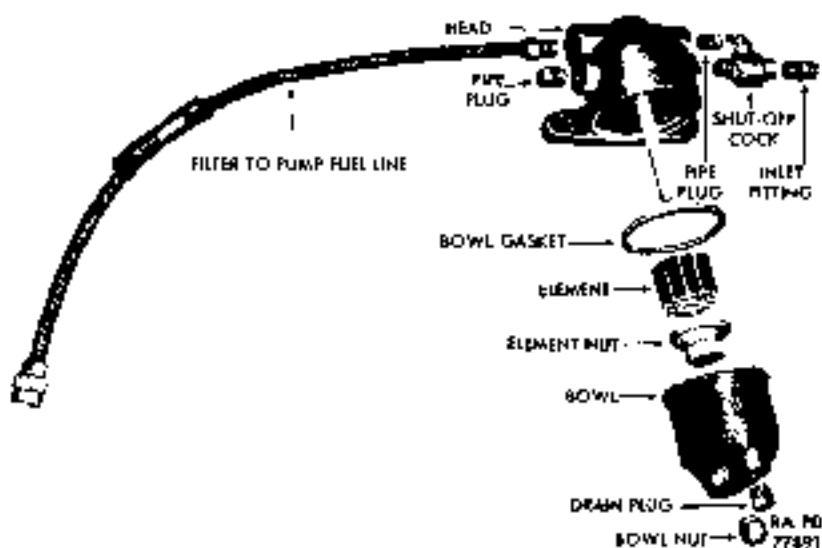

Figure 32 — Fuel Filter Disassembled
(1) **DESCRIPTION (figs. 32 and 33).** The fuel filter is mounted on the outside of main frame left side rail, and can be reached through an opening immediately above the left-hand lower step. Gasoline flows from the fuel tank to fuel pump through the filter,
**h. Maintenance (fig 32).** Service fuel filter when lubricating chassis. Remove bowl nut from bottom center of bowl. Lower bowl and bowl gasket from filter head. Unscrew element nut and lower element from stud. Wash all parts in dry-cleaning solvent, and dry with compressed air. Inspect element and gasket, and replace broken, bent, or torn parts. Place element in position on stud, and install element nut. Position gasket on top of bowl, position bowl on under side of filter head, and install bowl nut. Loosen one of the two pipe plugs on side of filter head and start engine. Tighten pipe plug when fuel drips from it.
a. **Description.** Gasoline is conducted from fuel tank to carburetor through three fuel lines. Tank to filter fuel line (fig. 34) and pump to carburetor fuel line is flexible woven metal (fig. 32). Brass sleeve coupling nuts are used throughout.